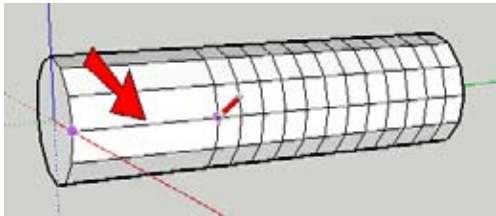

Figure 2-94
5. Now you can start drawing the spiral path. First, trace over any of the longer segments (Figure 2-94).